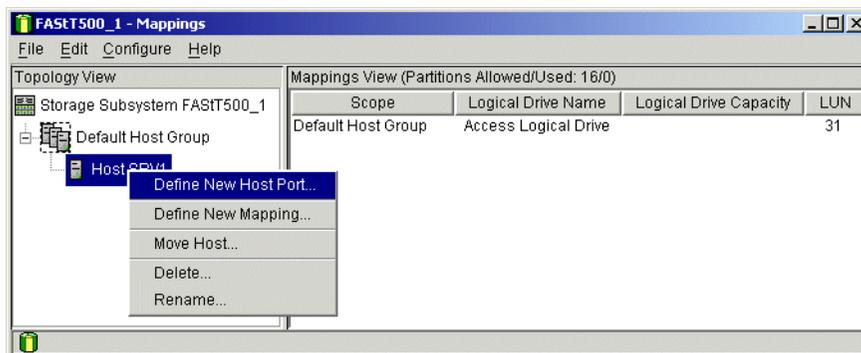

Figure 5-26 Defining a new host port
5. The new host is added to the configuration as shown in Figure 5-26: